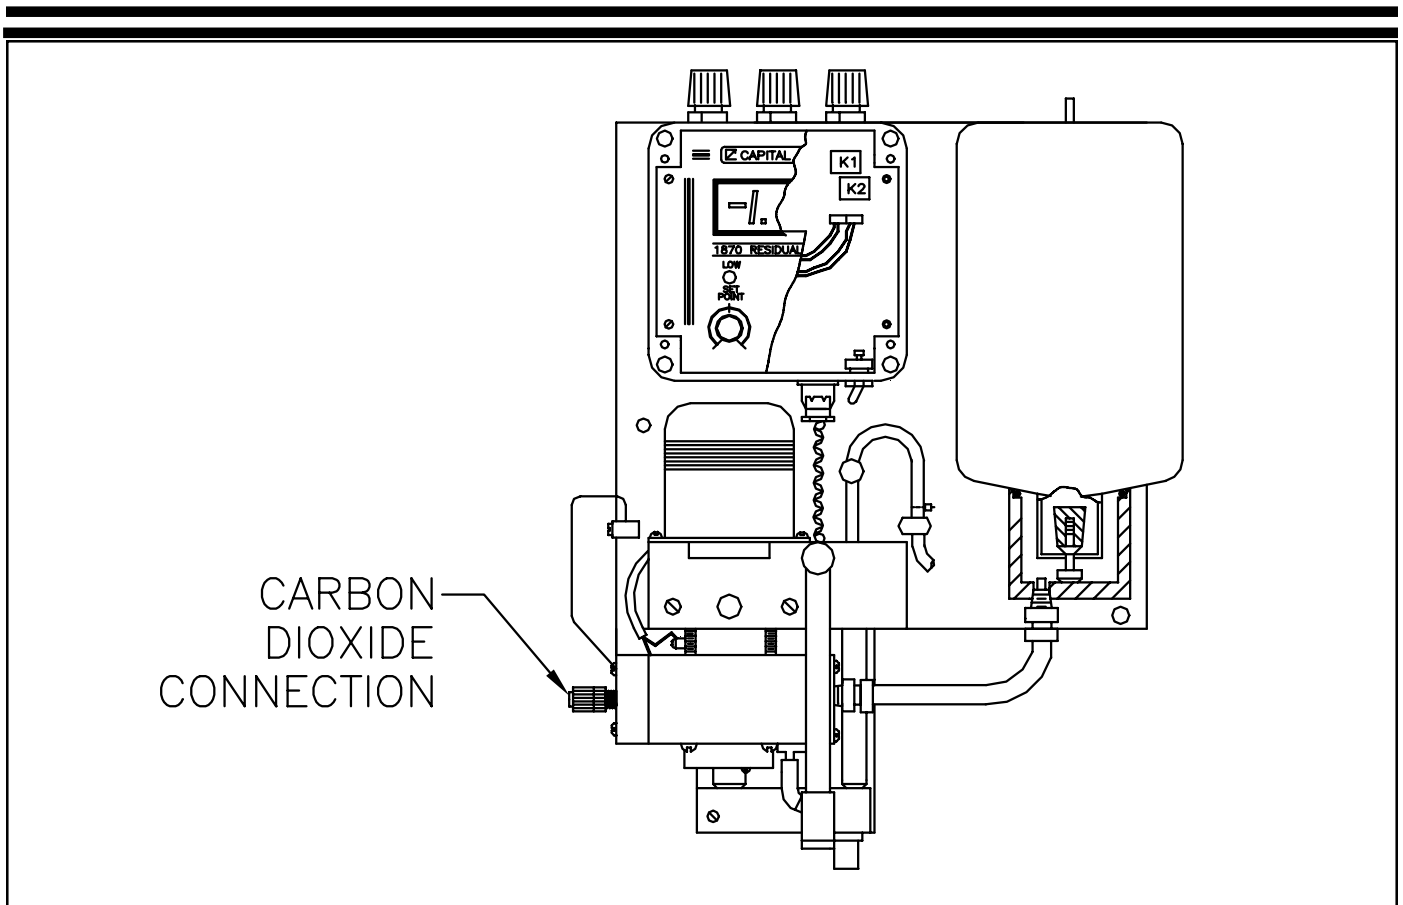

Figure 11 - Carbon Dioxide Inlet Fitting Analyzer With Reagent Bottle
- a. Wall Panel Mounted - Run a regulated carbon dioxide gas flow line to the inlet fitting mounted on the lower right side of the analyzer cell. (Refer to Figure 11).